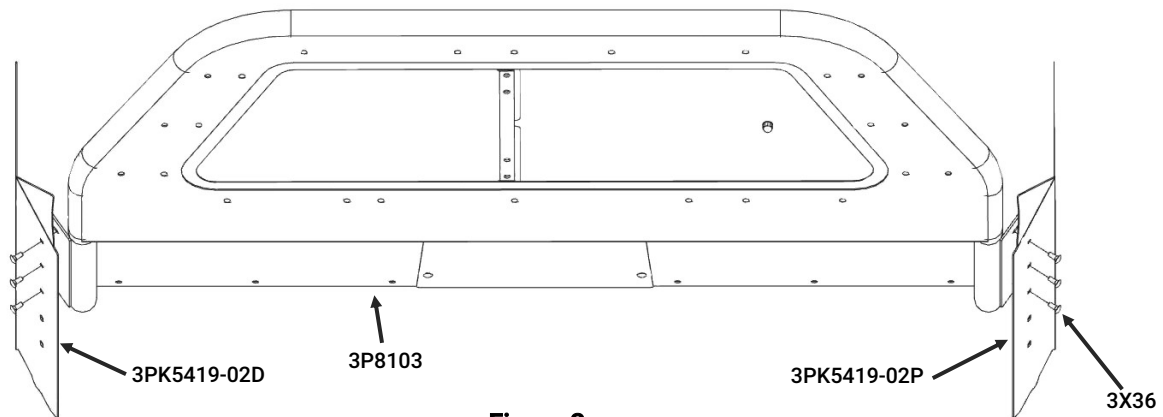

Figure 3
- Prepare (3) carriage bolts [3X36] and (3) whiz nuts [3X16Z] on each side of the vehicle.
- Position the partition [3P8103] inside the vehicle and align the three uppermost holes in each of the mounting plates with the respective slots on the partition. The flanges on the partition go on the inside face of the mounting plates. See Figure 3 on the following page.
- Loosely secure in place with the fasteners prepared in step (A). Install the fasteners such that the smooth head of the carriage bolt is facing towards the outside of the vehicle. The fasteners will be tightened in a later section.